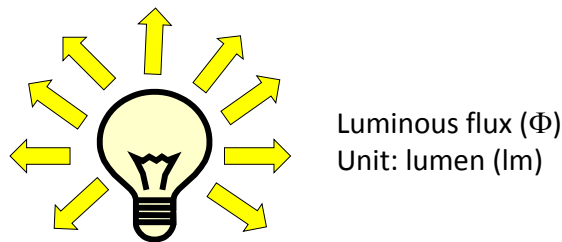

Fig. 1. Luminous flux.
- **Luminous flux ( $\Phi$ ):** is the total amount of light energy radiated from a light source in all directions per unit time (Fig. 1). In the International System of Units (SI), the luminous flux is measured in lumens (lm). Luminous flux is often used as an objective measure of the useful light emitted by a light source [3].